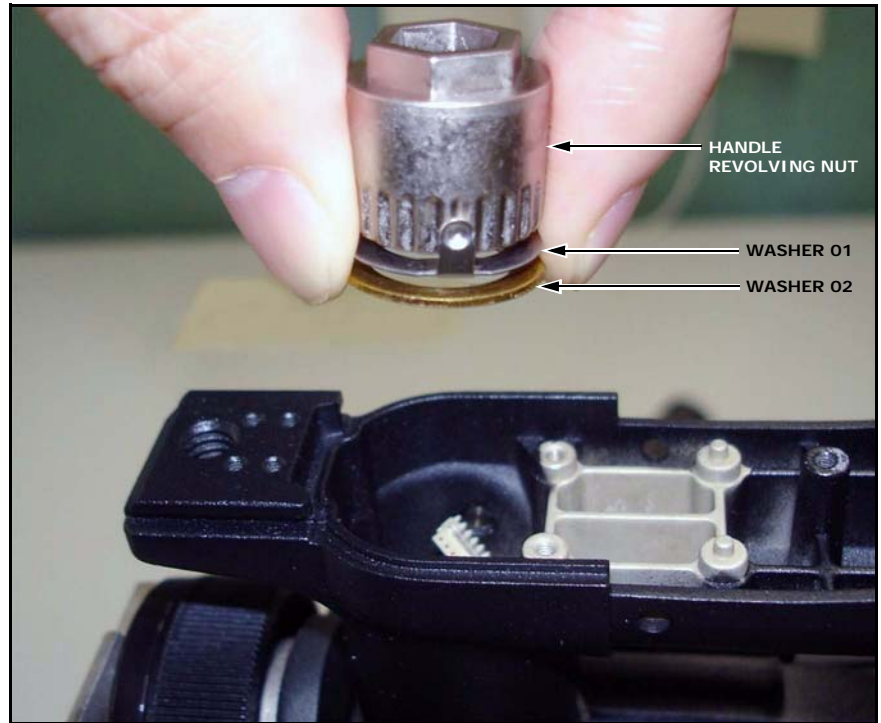

Figure 4
8. Install the handle revolving nut, washer 01, and washer 02 in the order shown in Figure 4, and gently tighten the nut with a tightening torque of 1.0 N·m (10 kg·fcm).